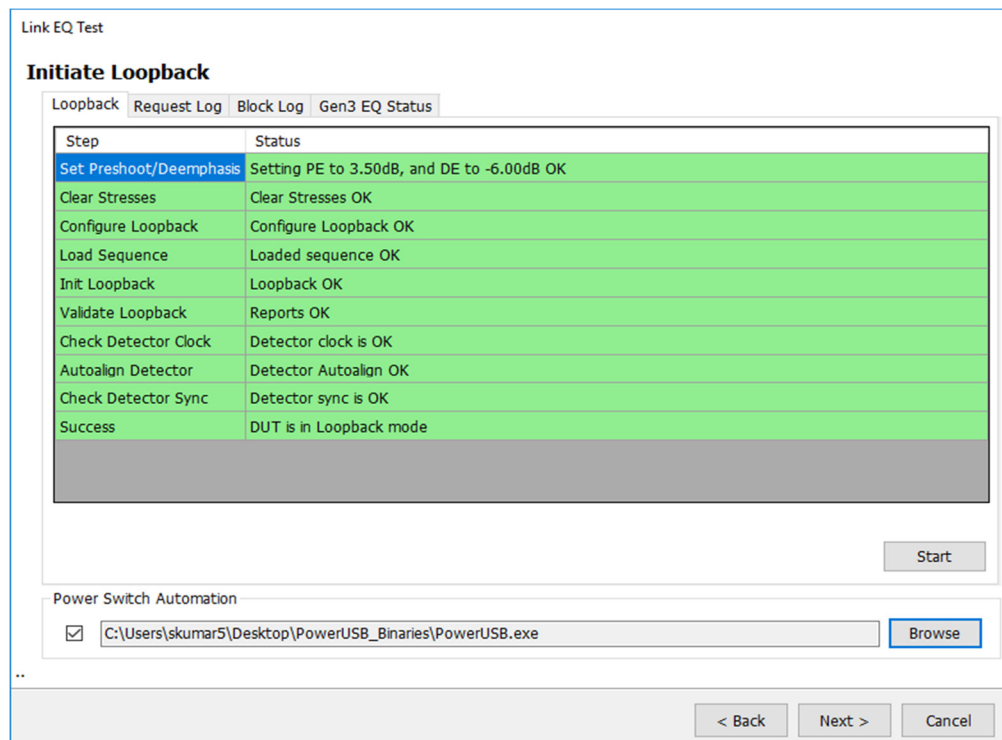

Figure 46
7. Enable the Power Switch Automation and load the Script .exe file which will Power ON the DUT during loopback as shown in Figure 46.